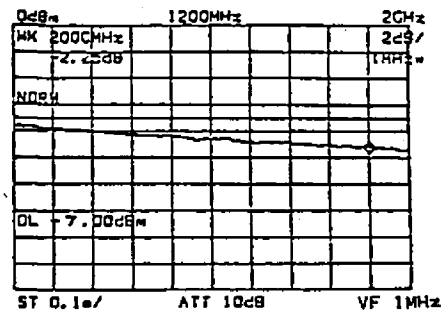

Figure 4-37 Reading the Characteristic of Waveform from the Marker Display
- ⑧ When the marker is displayed, the relative value between the marker point on the measured waveform and display line can be read directly in the marker level (Figure 4-37). To clear the NORMALIZE mode, press the ^{SHIFT} and _{NORM} keys again.